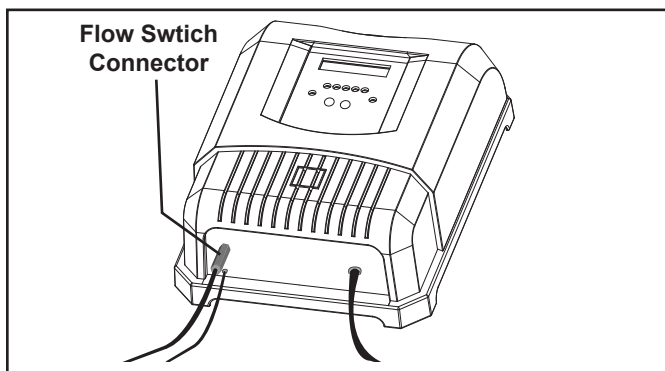

Figure 3. Flow Switch Connector
9. Plug the flow switch cable into the power pack (see Figure 3).